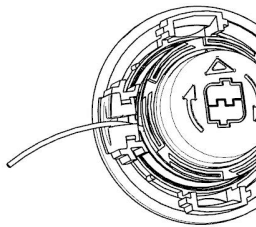

Fig.15
2. Place the trimmer line end through the metal position part, align the upper cover to spool retainer, and push them hard until you hear a clear “click” sound (Fig.15&16)